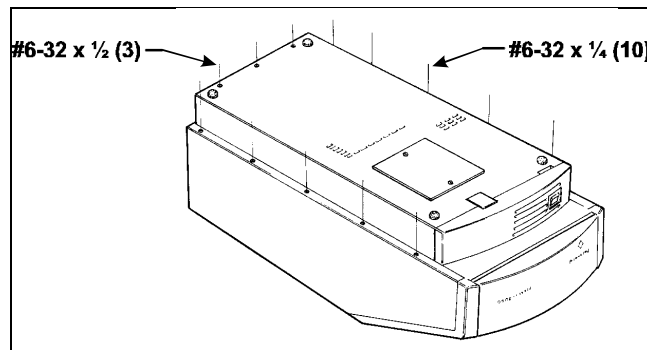

Figure 5-13. Removing top cover and rear panel pan screws
- b. Remove the ten #6-32 x ¼ Phillips pan head screws securing the top cover to the pan and the three #6-32 x ½ Phillips pan head screws securing the rear panel to the pan (Figure 5-13).